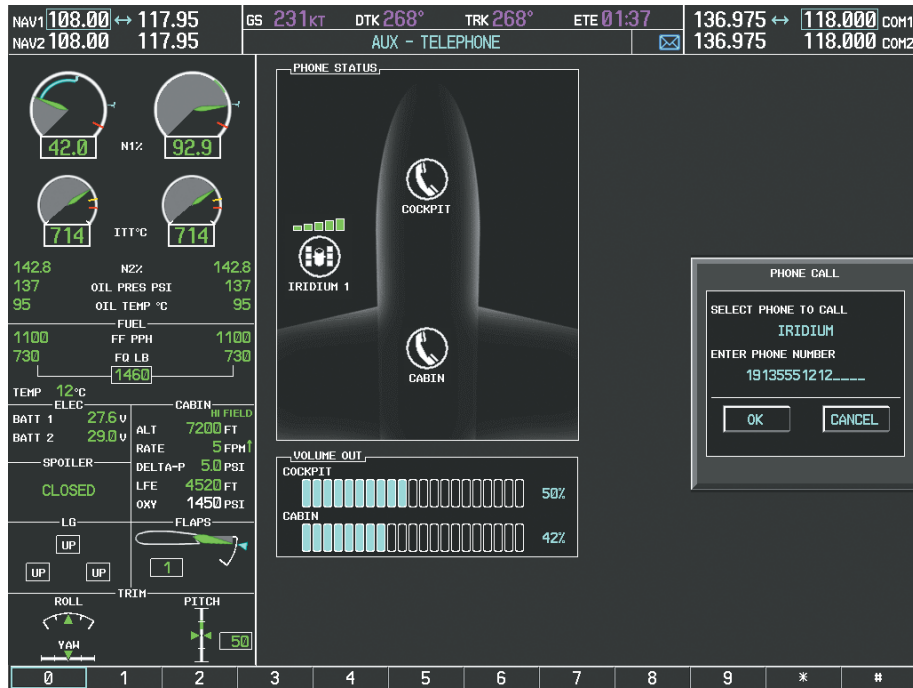

Figure 8-85 Make the Call
6) Press the **ENT** Key. 'OK' is highlighted as in Figure 8-85.